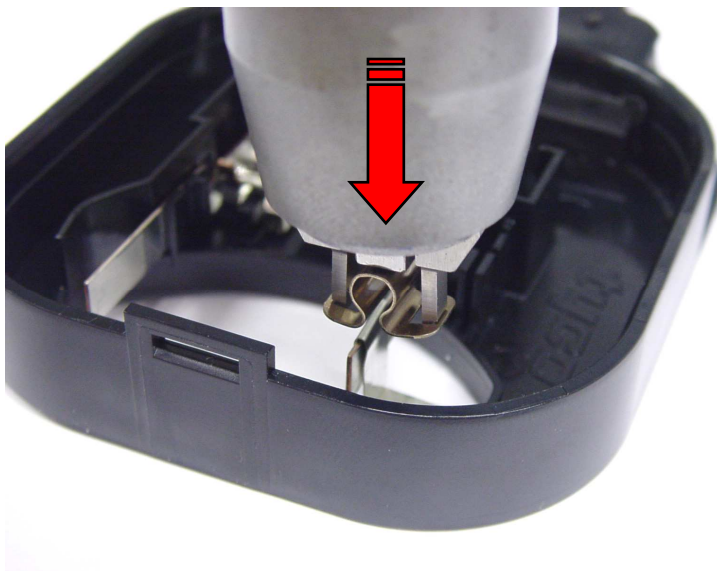

Figure 6
4. Now the clips may be put on the contact rail from above (see figure 6).